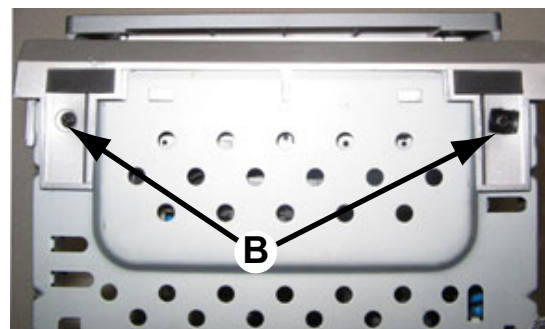

Figure 3
- 1) Remove 2 screws B (see Figure 3) from the bottom of the Cabinet Front.